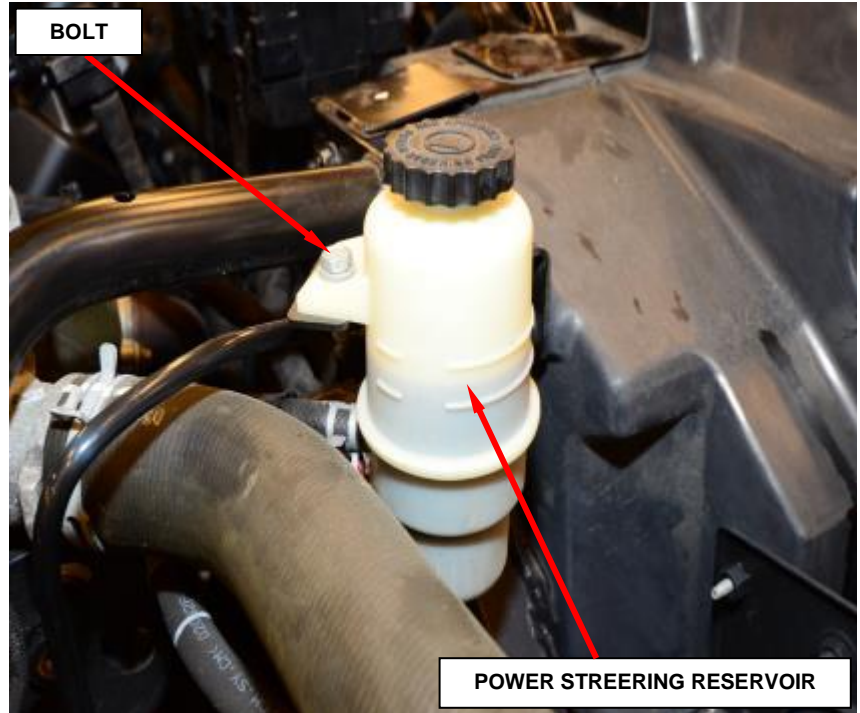

Figure 16 – Power Steering Reservoir
13. Remove and save the bolt securing the power steering reservoir and position the reservoir to the side (Figure 16).